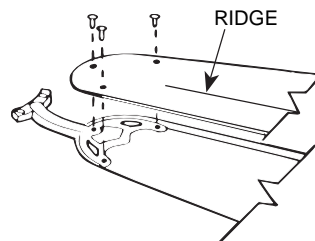
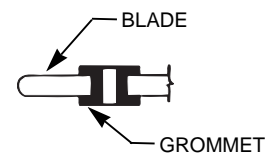

FIGURE 8
FIGURE 8A
**A.** Attach wood blades to blade brackets using three screws for each blade. See Figure 8. If your blades have large holes you must first insert the rubber grommets into the holes. See Figure 8A.